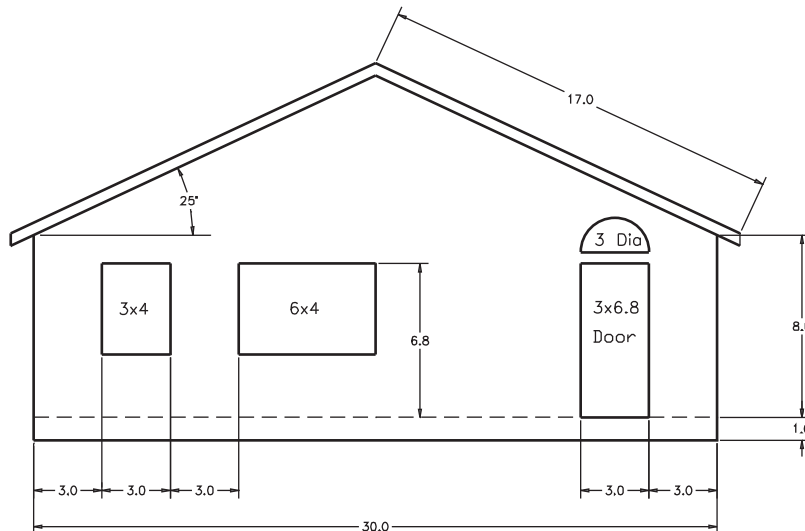

Fig. 27-14
- The architect for your firm has given you the elevation sketch shown in Fig. 27-14. Select an appropriate template file, complete the title block, and draw the front elevation; include dimensions. Since the drawing was not made by a drafter, make any changes necessary to comply with correct dimensioning practices. Save the drawing as **elev1.dwg**.